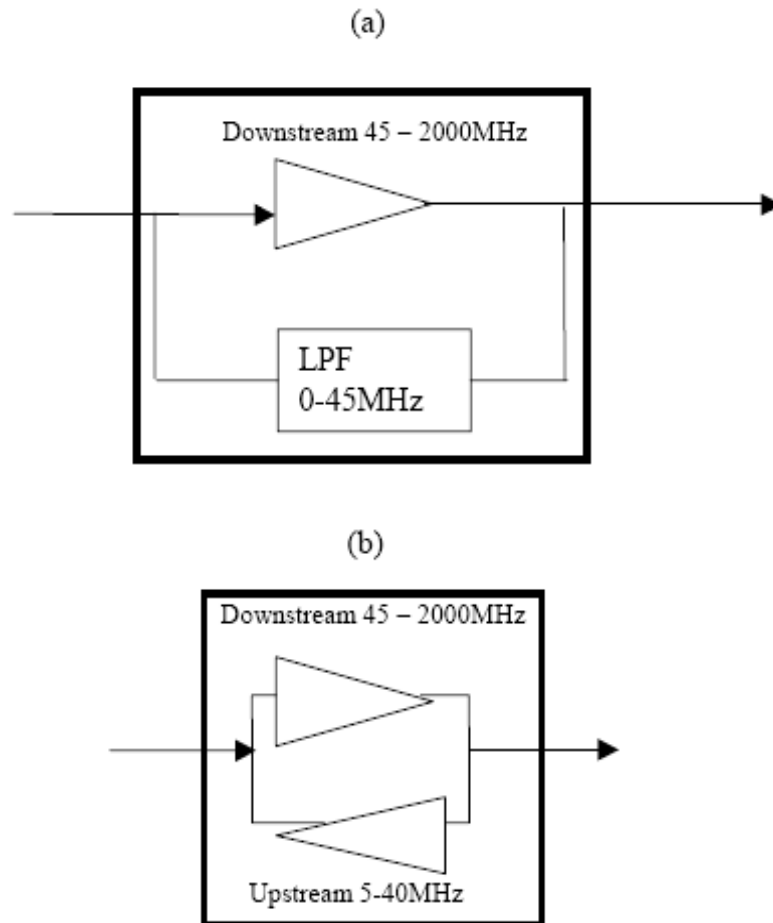
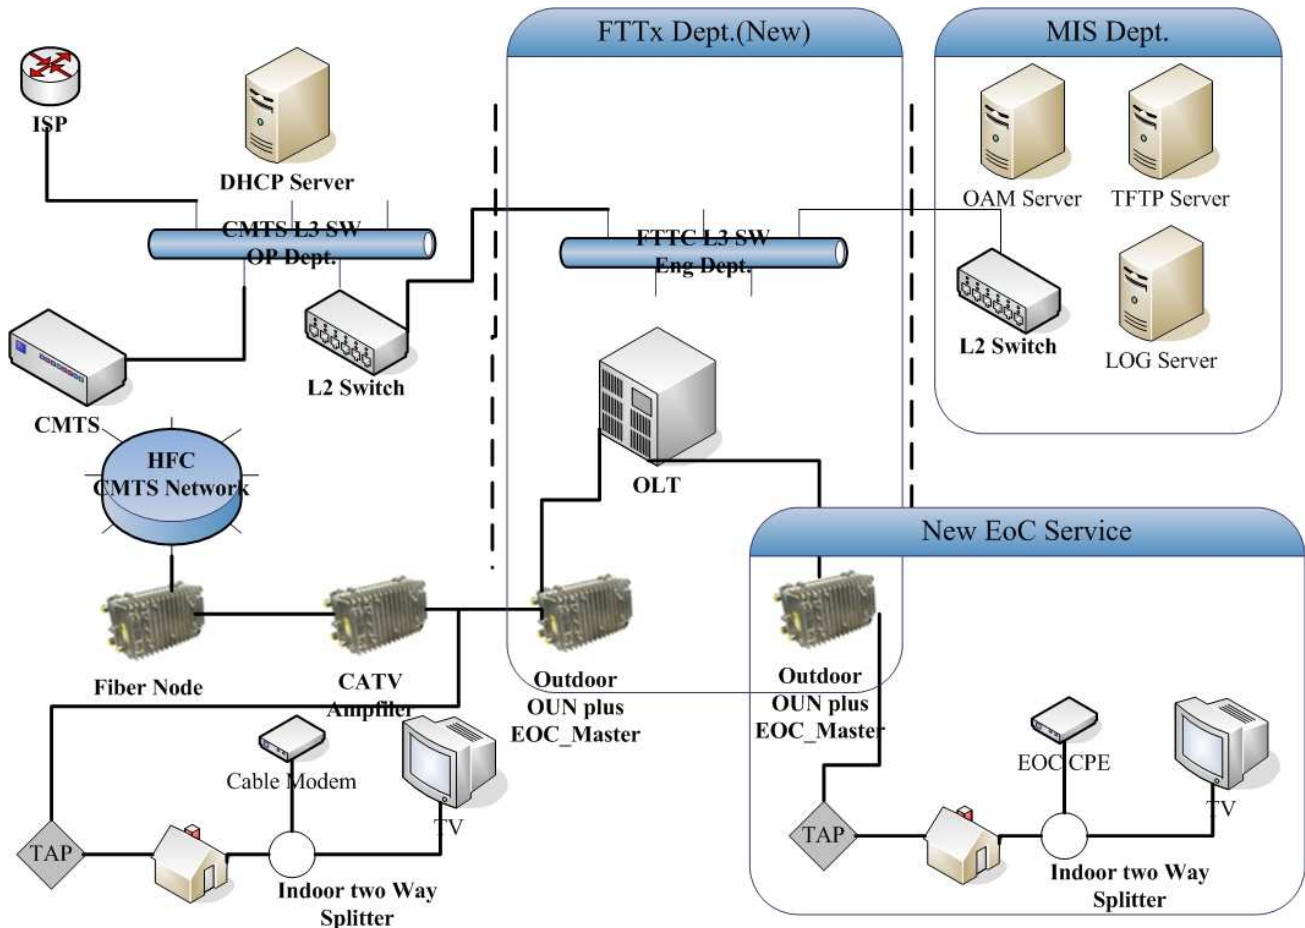

Figure 1: (a) Bypass of amplifier. (b) Bidirectional amplifier.
Figure 2 EOC HFC plus EOC Network
Amplifiers often do not include EoCNA in their downstream band. In cases where this type of device is installed, it should be replaced with one that has a bypass in the EoCNA band. Bypass is done by connecting a low pass filter (LPF) with a cutoff frequency of 45MHz in parallel with the amplifier as shown in Figure 1 (a). Note that in the cases where the amplifier has amplification for both downstream (DS) and upstream (US) directions (i.e. for the return channel, as shown in Figure 1 (b)), it would have overlapping bands with the LPF used for bypass and undesired effects such as positive feedback might occur in which case the amplifier should be replaced.
If there is a cable video CATV signal in the network, both the TV and EoCNA devices should be connected to the TV connector of the wall outlet. In this case a simple installation should be used as shown in Figure 2. The diplexer routes the 12-28/44MHz band to the EoCNA AFE and routes the 50MHz and higher band to the TV .
There are some installations where the apartment uses two ports of an outdoor tap (or splitter), as seen in Figure 1. In this case, installation should be as in Figure 2 and an isolator and a 1:2 splitter should be added between the tap port and the apartment. Note that the 1:2 splitter in this installation reduces the Coax video signal by about 3dB.
The examples in Figure 2 are given for a CATV signal in the network.